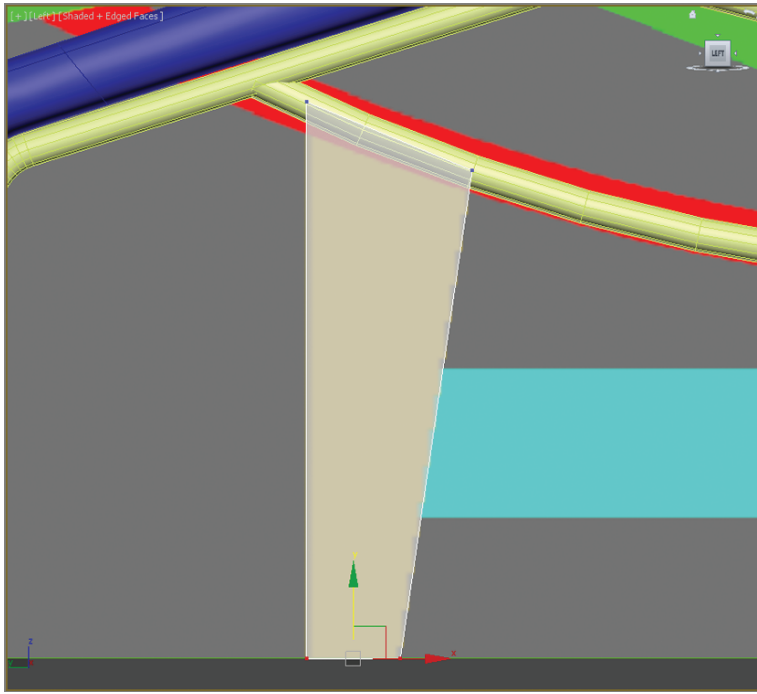

FIGURE 4.33 Move the vertices so they line up with the image plane.
6. In the Left viewport, move the vertices so they line up with the yellow box in the image plane, as shown in Figure 4.33.